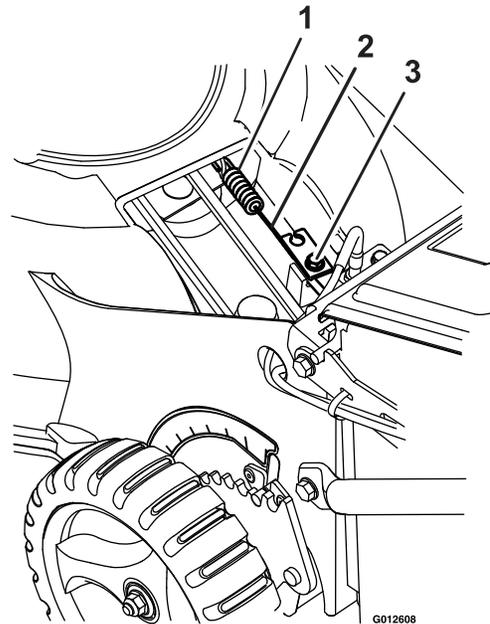

Figure 32
4. Loosen the cable clamp screw until the cable conduit slides (see Figure 32).